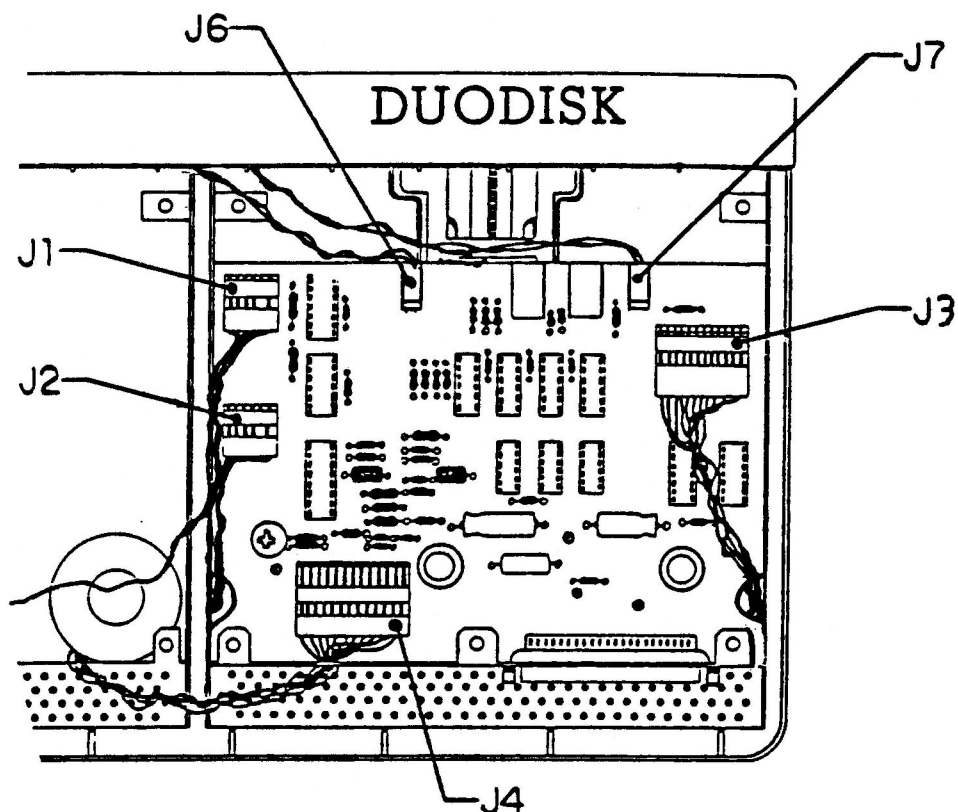

FIGURE 1
2. Disconnect the read/write head cables (Figure 1, J1 and J2).
3. Disconnect the stepper motor cables (Figure 1, J3 and J4). *Be sure to pull on the connector and not on the wire.*
4. Disconnect the LED cables (Figure 1, J6 and J7).
2. Route the read/write head cables (Figure 1, J1) and stepper motor cables (Figure 1, J3) through their respective cutouts.
4. Reconnect the stepper motor cable (Figure 1, J3) for the right drive. If there is no key to indicate correct orientation, the side with "A2" should be face up. (There will be no wires for pins 1 and 2.)
5. Route the left-drive stepper motor cable through the cutout at the back of the shield, and connect it (Figure 1, J4).
6. Route the read/write head cable for the left drive through the cutouts, and connect it (Figure 1, J2). Make sure the shrink tubing fits in the cutouts.
7. Reconnect the read/write head cable for drive 1 (Figure 1, J1).
8. Reconnect the LED cables for the left drive (Figure 1, J6) and for the right drive (Figure 1, J7).